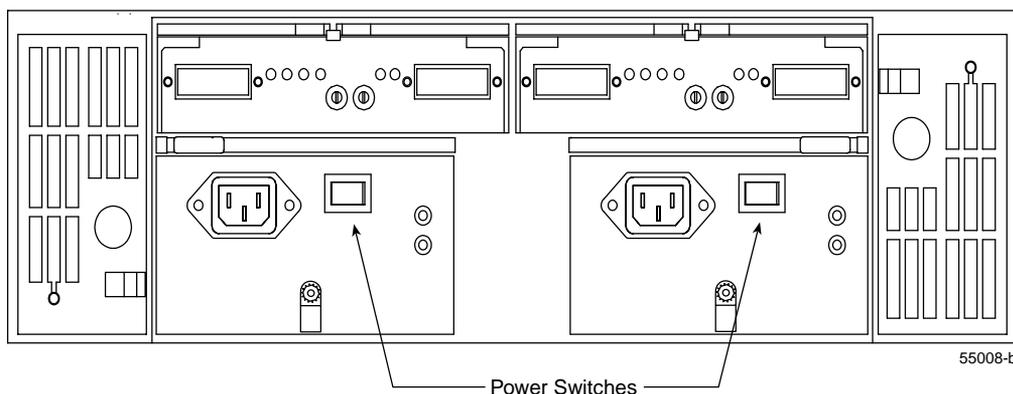

Figure 8-17 The Drive Enclosure Power Switches
9. Turn on both power switches on the rear of each drive enclosure (Figure 8-17).